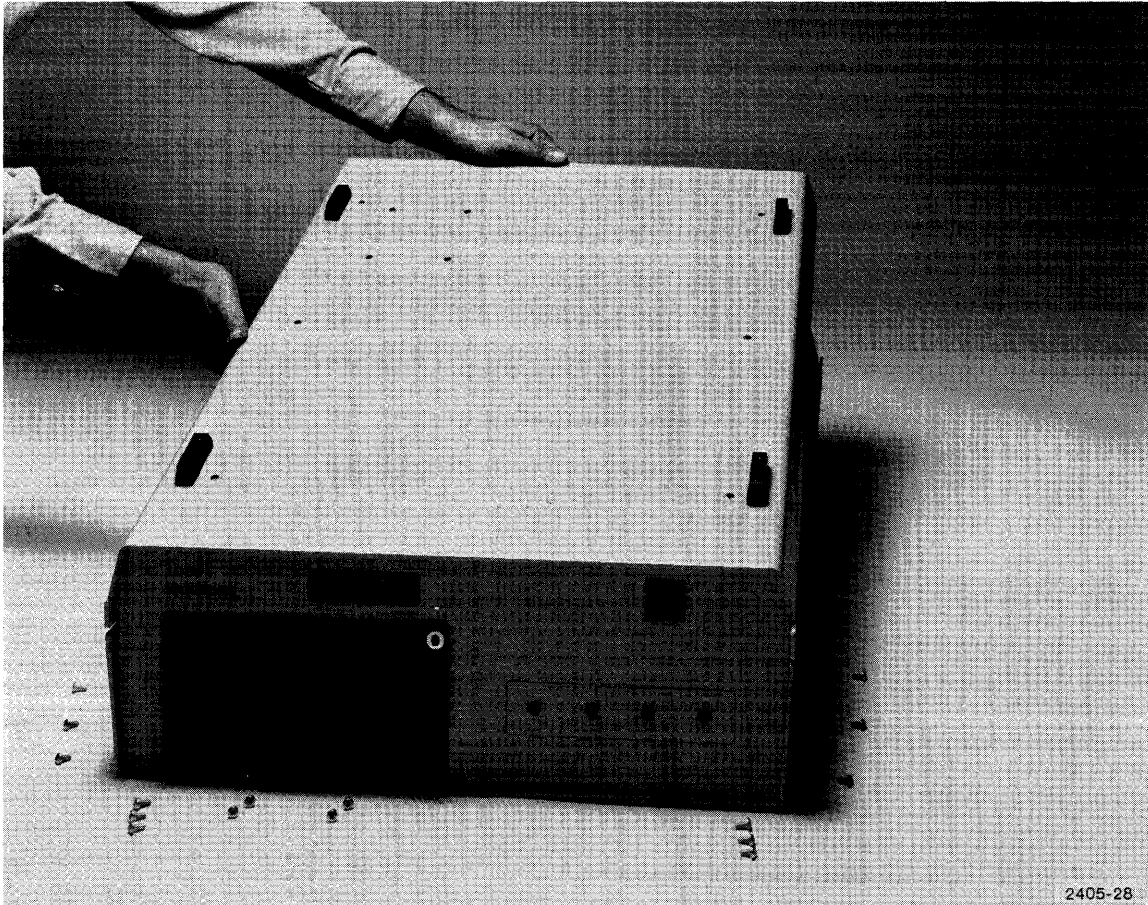

Figure 4-10. Removing Bottom Panel.
2. Remove ten bottom screws, then lift off base (Figure 4-10). Do not remove feet.